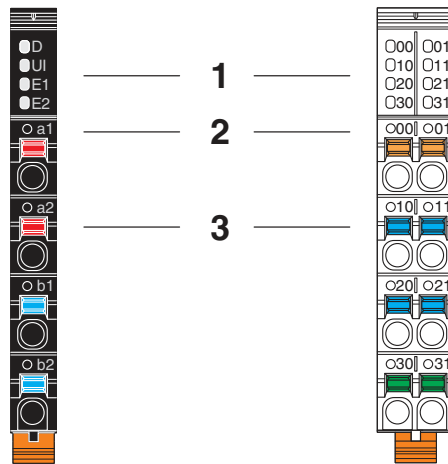

Figure 4-22 Marking of the terminal points and the LEDs on the connectors
- Indication elements** Diagnostics and status indicators are marked with the function, e.g., D, E, UI, 00, 01, ... (1 in Figure 4-22).
- Terminal points** The terminal points are consecutively numbered, e.g., a1, b1, 00, 01, ... (2 in Figure 4-22).
The associated colored spring lever indicates the function (signal, potential) (3 in Figure 4-22).